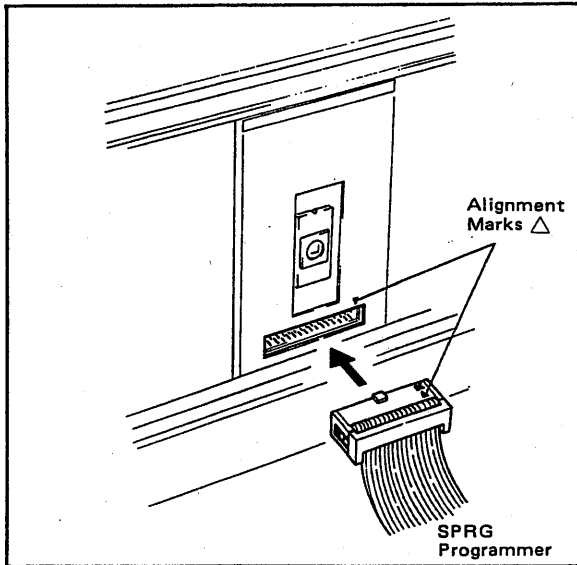

Figure 5-5-1. Connection to SCMS.
- (1) Turn both the SCMS and SPRG power OFF.
- (2) Set the SPRG to the PROGRAM mode.
- (3) Connect the SPRG cable connector to the SCMS. (See Fig. 5-5-1.)
- (4) Turn the SPRG power ON.
- (5) Turn the SCMS power ON.